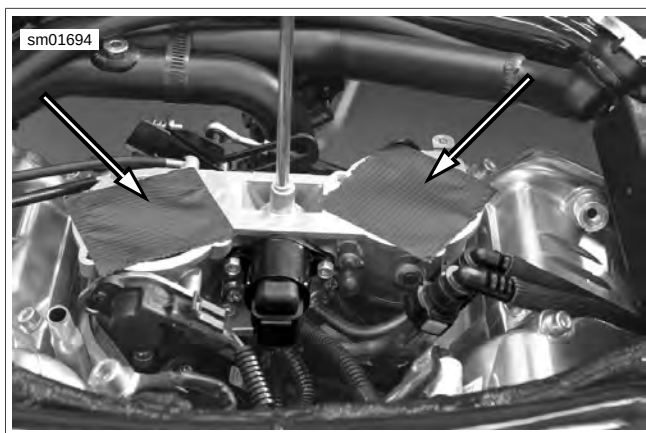

Figure 1-76. Air Box Removed (Throttle body bores shown by arrows)
3. See Figure 1-76. Cover throttle body bores (injector bore).